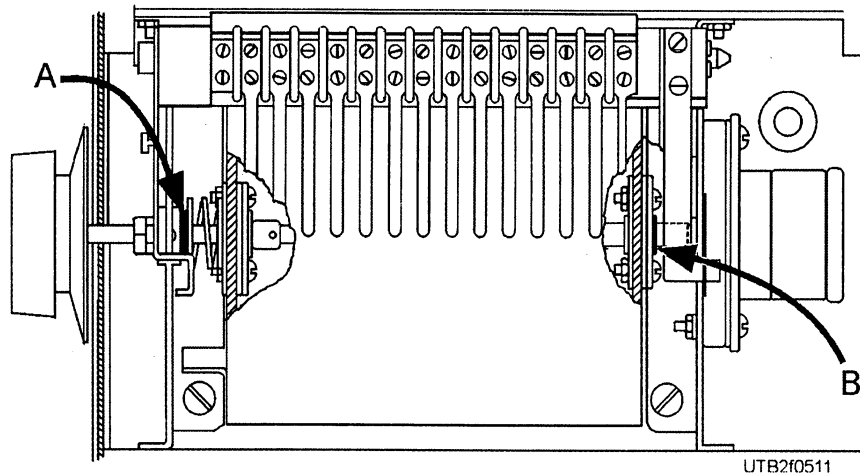

Figure 5-11.—Lubrication and cleaning points on timer.
- Lubricate the clutch drag spring with two or three drops of light machine oil between the left-hand chassis end frame and the clutch drag spring holder, as shown by arrow (1) in figure 5-11.
- Clean the motor clutch assembly, as shown by arrow 2 in figure 5-11, with one or two squirts of Navy-approved nonflammable cleaning fluid. Wipe the fluid off with a clean, dry rag and lubricate with two or three drops of light machine oil to prevent the clutch spring from "gumming up" and allowing the clutch to slip. Wipe off excess lubricant.